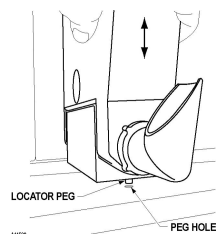
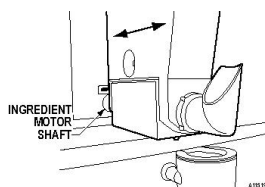

Figure 5c. Locator Peg
Figure 5d. Motor Shaft
4. When filling the canisters, hold the top and bottom of the canister and slowly lift it up so that the locator peg clears the peg hole. **Figure 5c**. Slide the canister forward until it is out of the ingredient motor shaft. **Figure 5d**.
10. Review the canister arrangement as shown in **Figure 5a**. Hold the canister carefully at the bottom and top to prevent spilling. Gently place the filled canister back on the product shelf. **Figure 5d**.
11. Line up the hollow shaft in the back of the canister with the ingredient motor shaft. See **Figure 5d**.
12. Slowly slide the canister toward and over motor shaft until locator peg falls inside the hole on the product shelf. See **Figure 5c**.